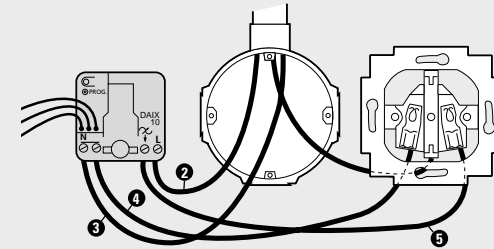

Figure 1.
- If the live and neutral wires are connected to the module in reverse, 230 V will be released on one of the module's potential-free connecting wires! Make sure that the live and neutral wires are connected correctly to ensure your safety and the safety of others, see Figure 1.